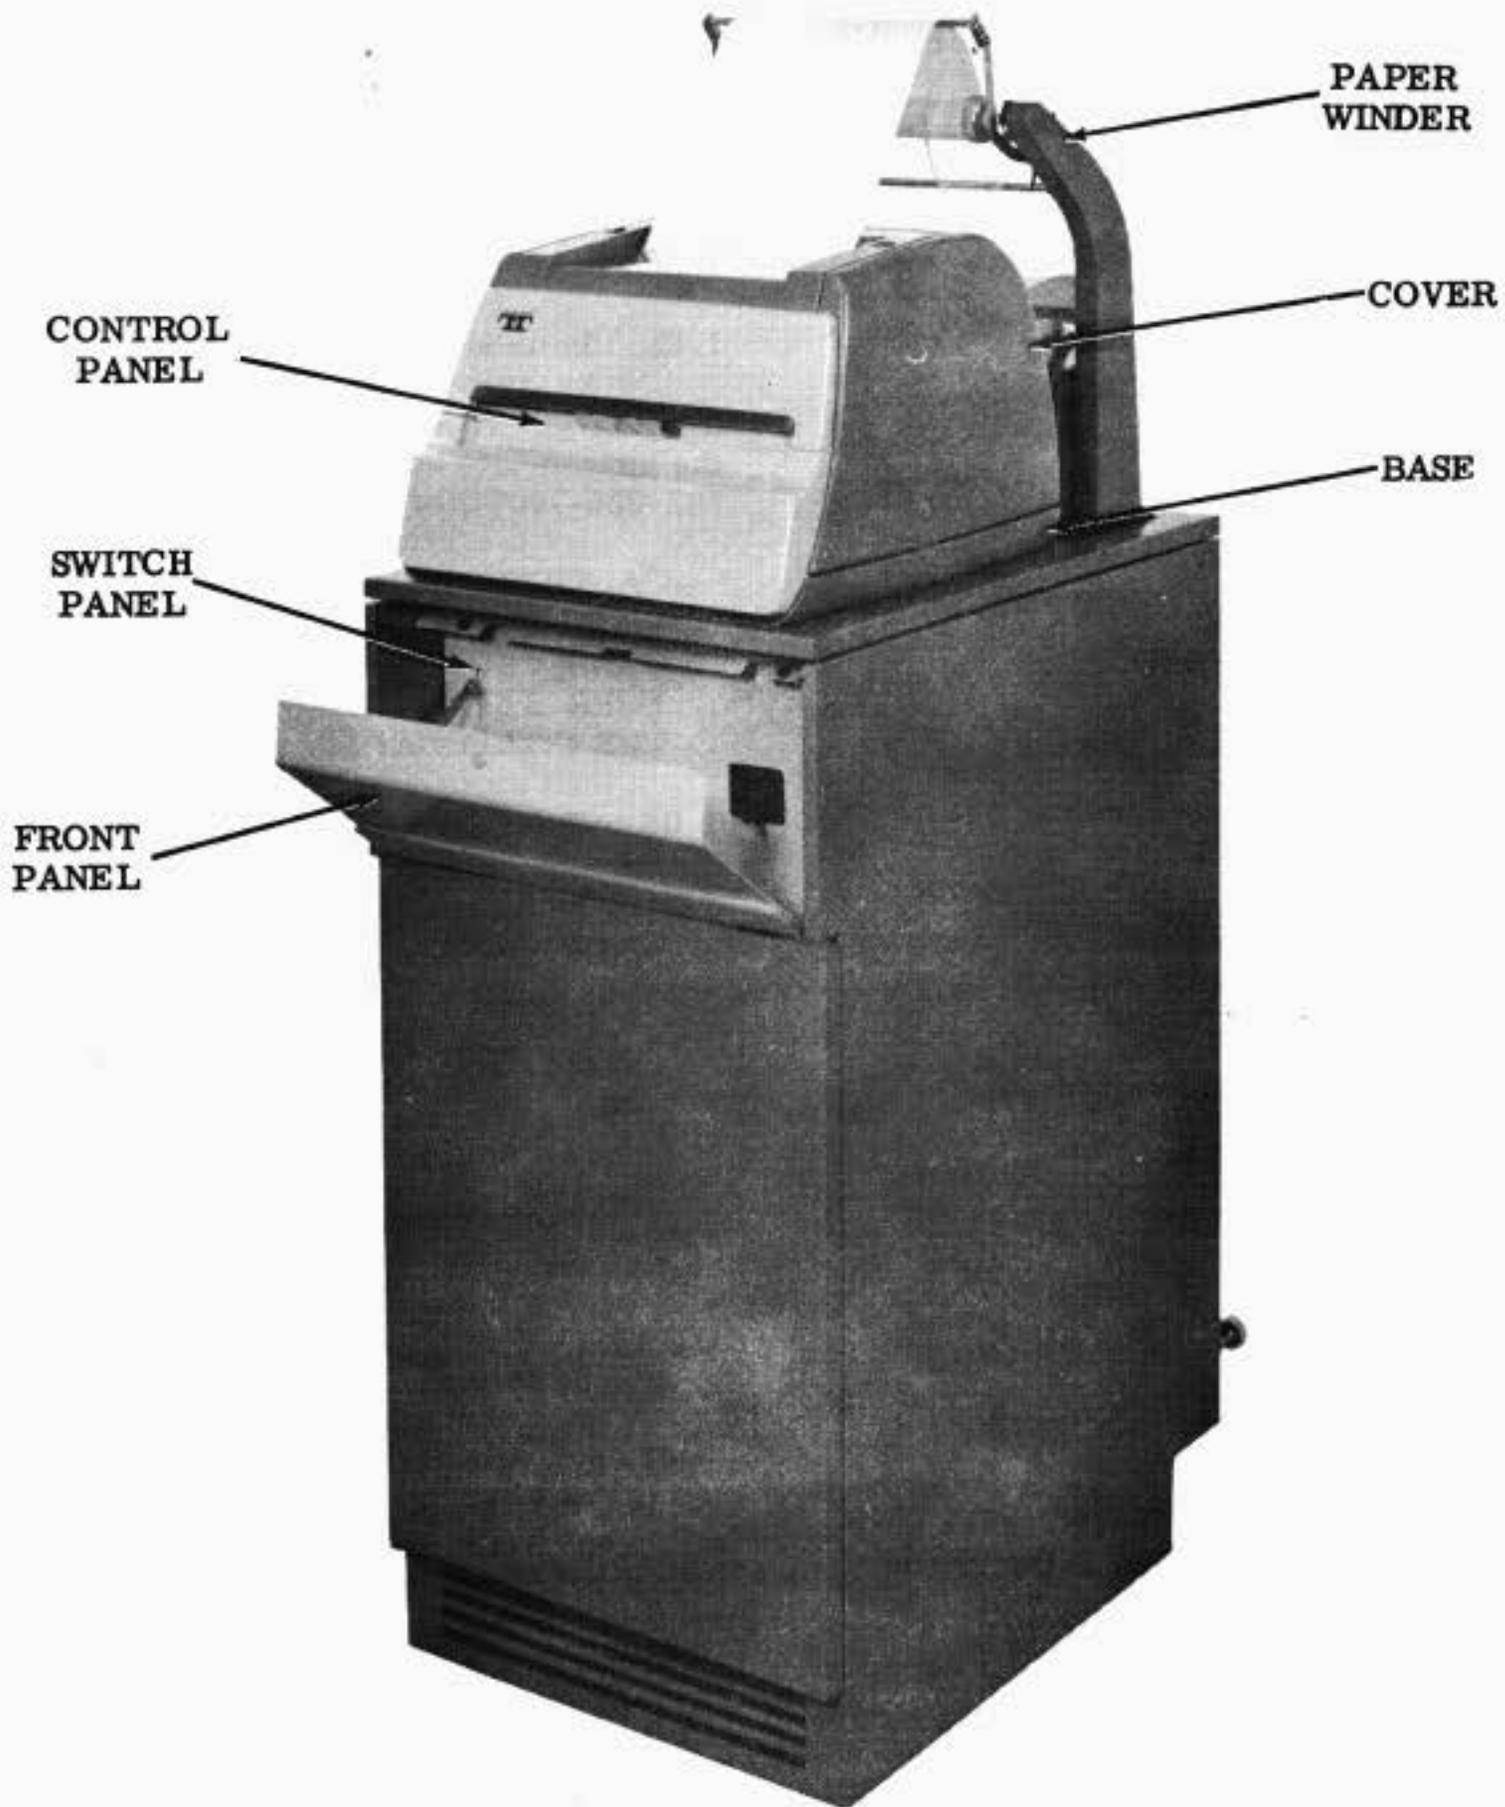

Figure 1 - INKTRONIC Page Printer (RO) With Blank Front Panel and Switch Panel
1.01 This section describes the method of removing and replacing the main components of the Receive-Only INKTRONIC Page Printer Set (RO), as illustrated in Figures 1 and 2. If further disassembly of these components is required, refer to the detailed illustrations of parts in Sections 592-820-800TC through 592-820-802TC. Also, for further disassembly of the recorder and paper transport mechanism, refer to Section 592-820-703TC.
2.22 If the printer has a blank front panel for use with a 202D or 402D data set, or for direct interface with a TELESPEED\* installation (Figure 1), remove the front panel as follows: